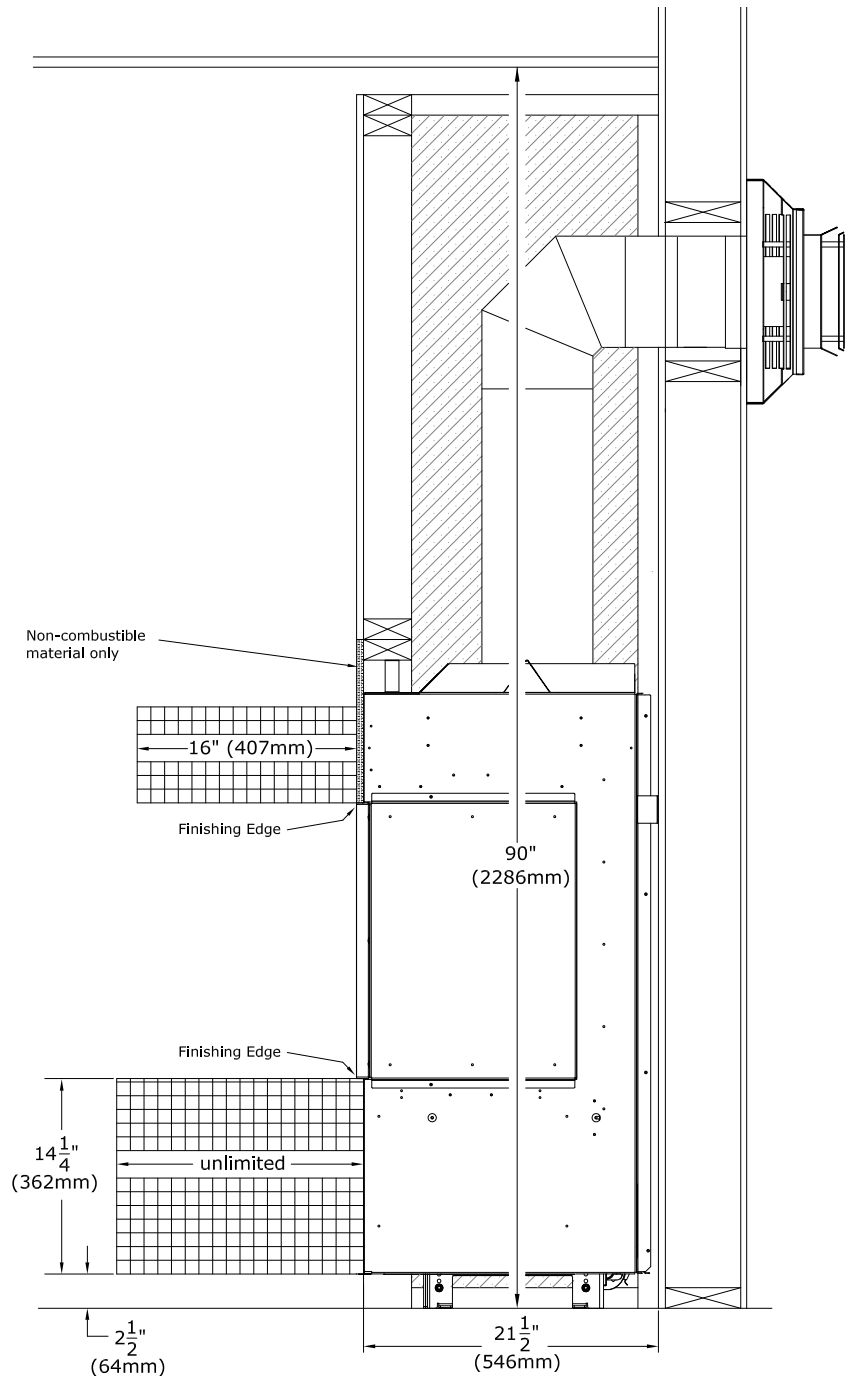

Figure 3.32 - Mantel Projection and Hearth Projection
- **Combustible Mantel Projections:** A maximum of a 16" (406mm) mantel can be installed flush at the side and top finishing edge. See Figure 3.32.
- **Combustible Hearth:** Combustible hearth can have an unlimited projection. Hearth can be raised flush to the bottom finishing edge. See Figure 3.32.